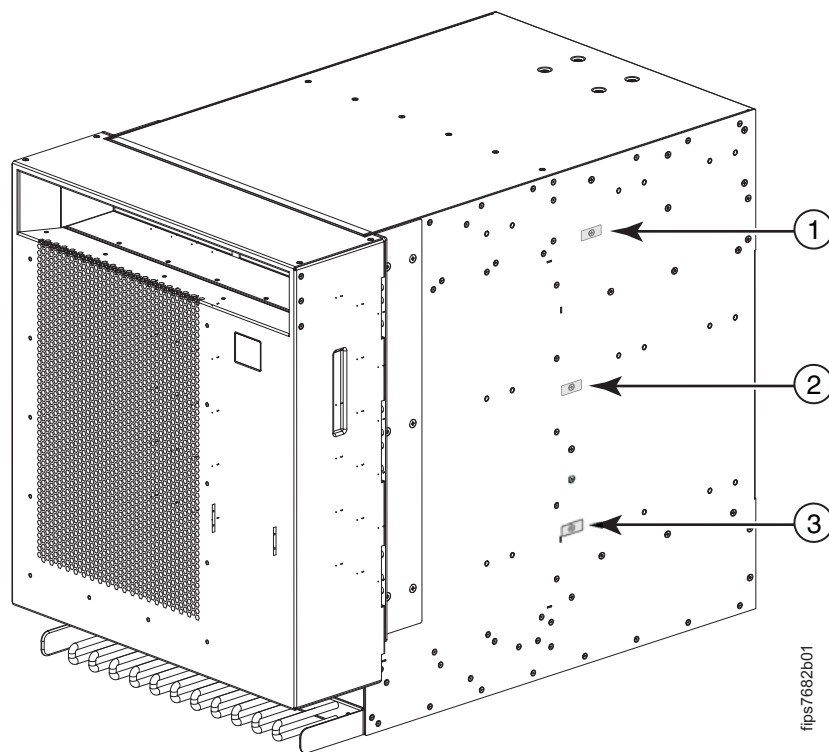

Figure 52. 2499-816 chassis right side seal location
Figure 52 shows the right side of the 2499-816 with the chassis door attached. Refer to the figure when performing the procedure. Twenty-two (22) seals are required to complete the security seals application procedure for the 2499-816 (three on the chassis, 12 on the port side blades and filler panels, and seven on the non-port side).
1. Locate the three screws on the right side of the chassis enclosure, as shown by **1**, **2**, and **3** in Figure 52 on page 51.